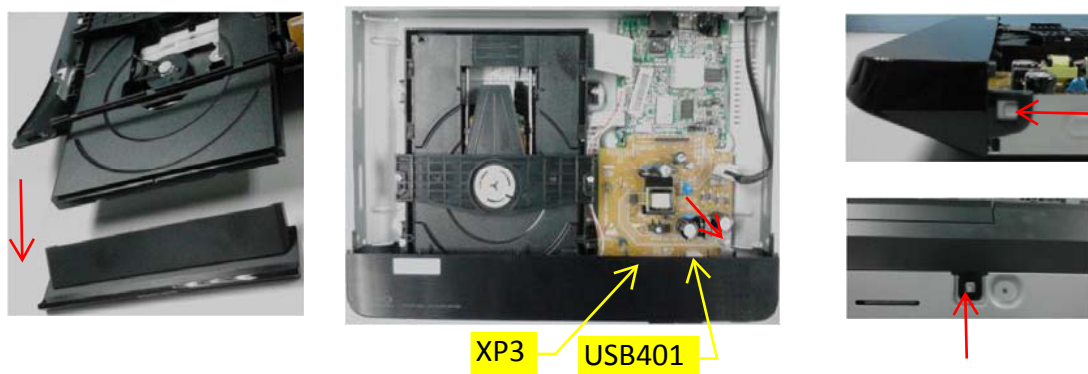

Figure 2
**Step:2** Remove the front panel. Open the tray, dismantle the CD door, remove 1 screw on power board, disconnect connectors(XP3,USB401), dismantle 1 buckle under the panel and 2 buckles on both sides. then pull out the front panel.(Figure 2)